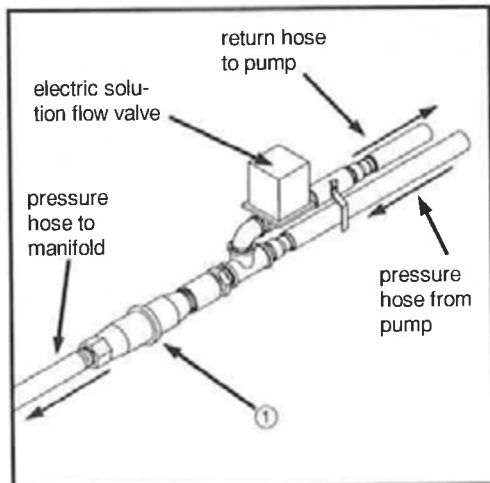

FIG 5.35
The solution flow meter (fig. 5.35, item 1) is mounted in-line after the solution pump. It monitors solution flow in gallons per minute. If the flow signal it sends to the monitor is too low, the monitor closes the solution flow valve on the pump return line. If it's too high, the monitor opens the solution flow valve.